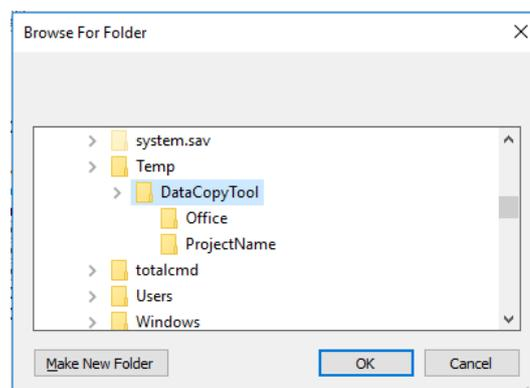

Figure 6: Location to Data Storage
c) The *Refresh Content* button is reloading the project structure from either the scanner or the locally stored data into the *Content Frame (1)*. This may be needed if the scanner is acquiring scans into a new created project during the *ScanStation Pxx* is still connected to your computer.
d) The *Pxx Data Copy Tool* provides downloads of project data and log files. Click the *Start Download* button to copy the selected data within the *Content Frame (1)* to a location of your choice. Within the upcoming window (Figure 6) the destination folder on the local device can be chosen.
- d1) By pressing *Dump all projects from scanner to computer* button, whole content of the Data folder on scanner is copied to selected destination folder on the local computer. Destination folder can be chosen within the upcoming window (Figure 6).